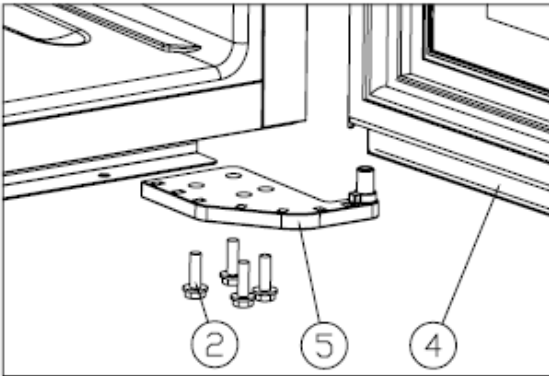

Figure 2
- ✧ Unscrew the M5*16screws②, dismantle the right lower hinge⑤. [Figure 2]